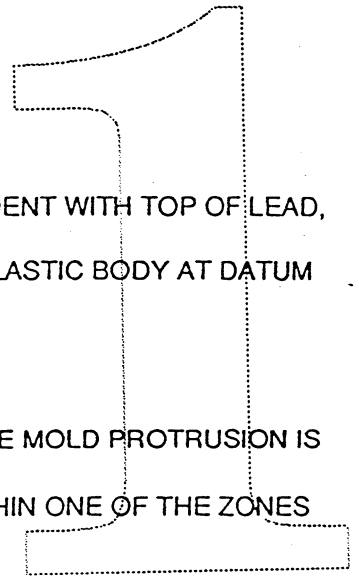

FIGURE 3. DIMENSIONS (CONT)
- 3.1.1 PACKAGE:** Void free plastic 68-pin PLCC package. Dimensions per Figure 3.